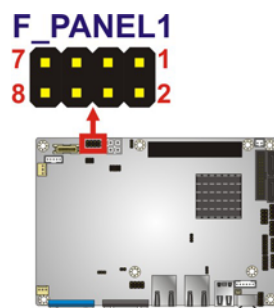

Figure 3-9: Front Panel Connector Pinout Locations (8-pin)
- CN Location:** See **Figure 3-9**